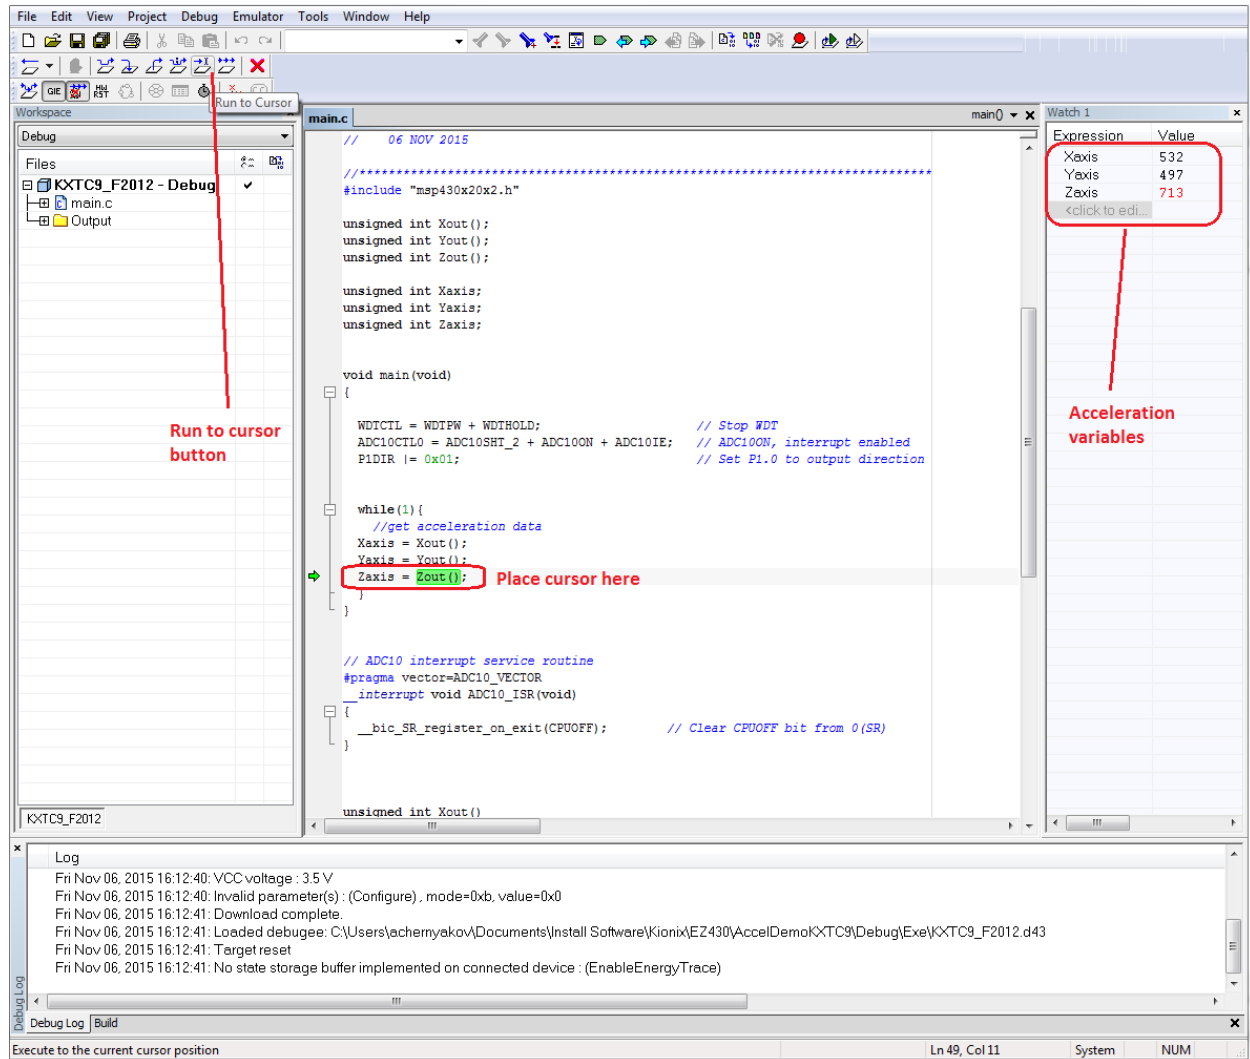

Figure 10: Operation in Debug Mode
9. Place the cursor on the Zout variable. Press Run to cursor button to refresh the view of the Xout, Yout, and Zout (X, Y, and Z acceleration) variables in the watch window (Figure 10).